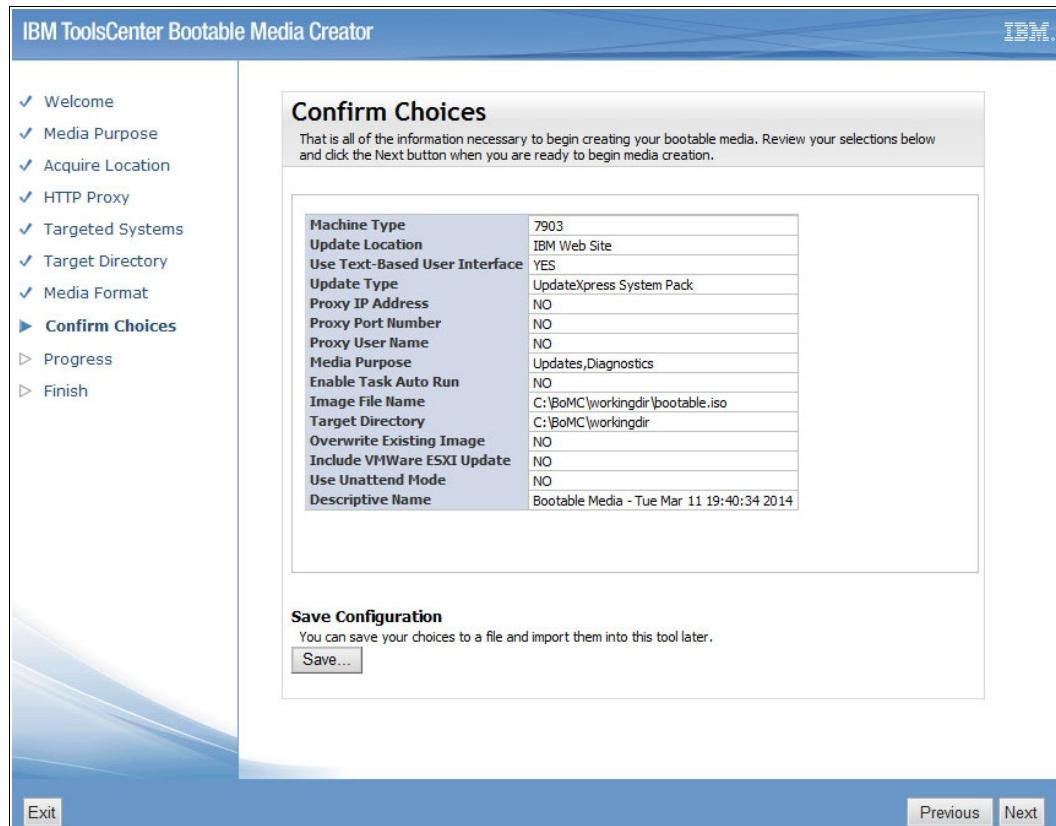

Figure 6-7 BoMC Confirm Choices window
- In the Confirm Choices window shown in Figure 6-7, confirm your choices in BoMC. Clicking **Save** will save the settings for the next time that they are required.